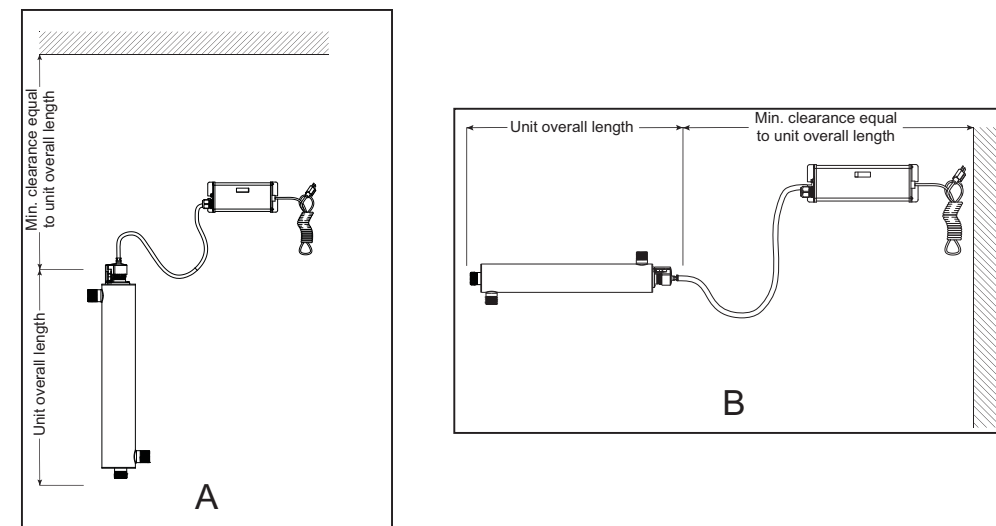

Figure 3 Disinfection Installation - Vertical and Horizontal
- Select a suitable location for the disinfection system and its related components. As it is recommended to install a GFCI, make sure that this is taken into consideration prior to any installation. The system can either be installed vertically (inlet port at the bottom) as shown in Figure 3 A, or horizontally as shown in Figure 3 B. However, the vertical installation is the most preferred method. When selecting a mounting location, leave enough space to allow the removal of the UV lamp and/or quartz sleeve (typically leave a space equal to the size of the chamber itself).